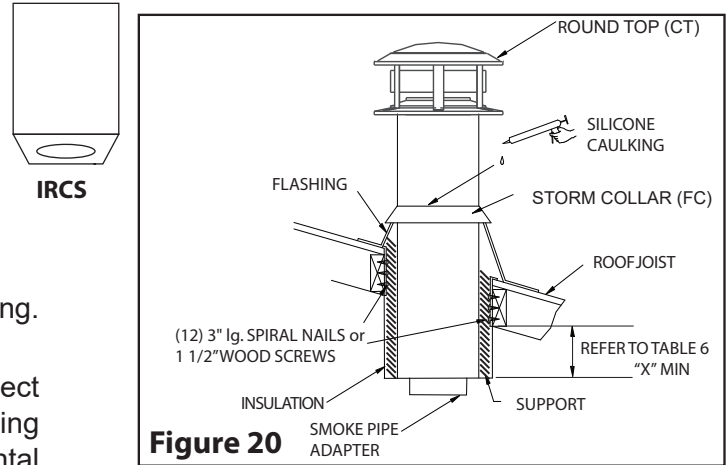

Figure 20
Step 3: Use a level to ensure the support is vertical. If the support extends above the roof, cut it flush with the top of the roof. Attach the support to the framed opening using (12)-3” spiral nails or #8 x 1 1/2” wood screws (see **Figure 20**).